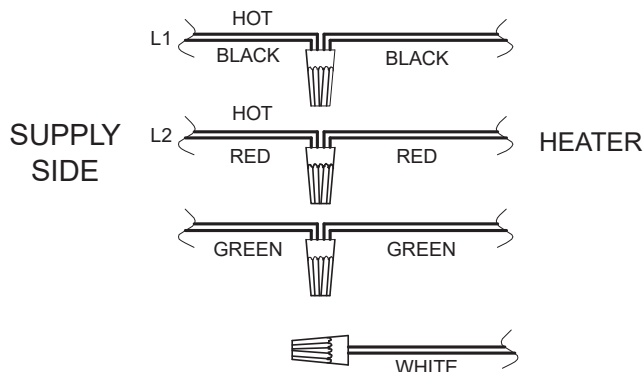

Figure 18. 240V Wire Connection
8. Install a wire nut on the white transformer wire. See **Figure 18**.